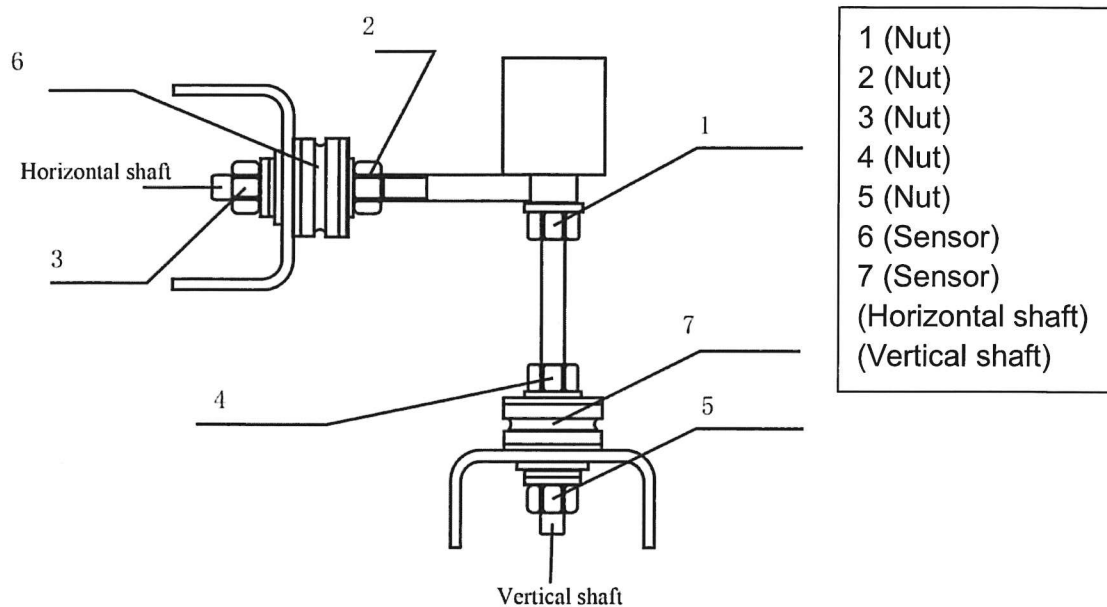

Figure 12-1
① Unlash the No.1,2,3,4,5 nuts
② Remove the sensor and screw.
③ Change the No.6,7 sensing element.
④ Install the sensor and the screw according to the figure 12-1 (pay attention to the sensor's direction)
⑤ Tighten the No.1 nut emphatically.
⑥ Tighten the No.2 nut to make the main shaft and the flank of cabinet vertical, and then emphatically tighten the No.3 nut.
⑦ Tighten the No.4 nut (not too emphatically), then tighten No.5 nut.